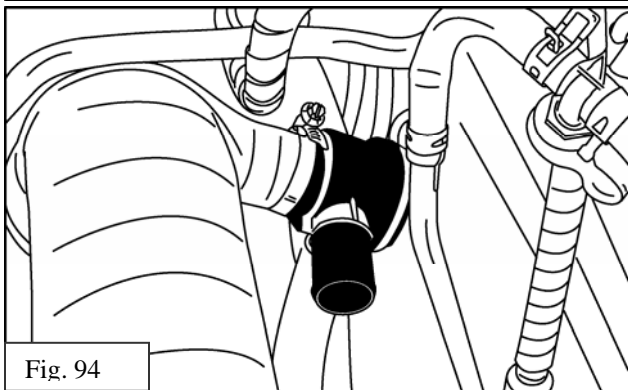

Fig. 94
- (b) Attach bypass valve to intake tube with appropriate hose clamp. See Fig. 94.